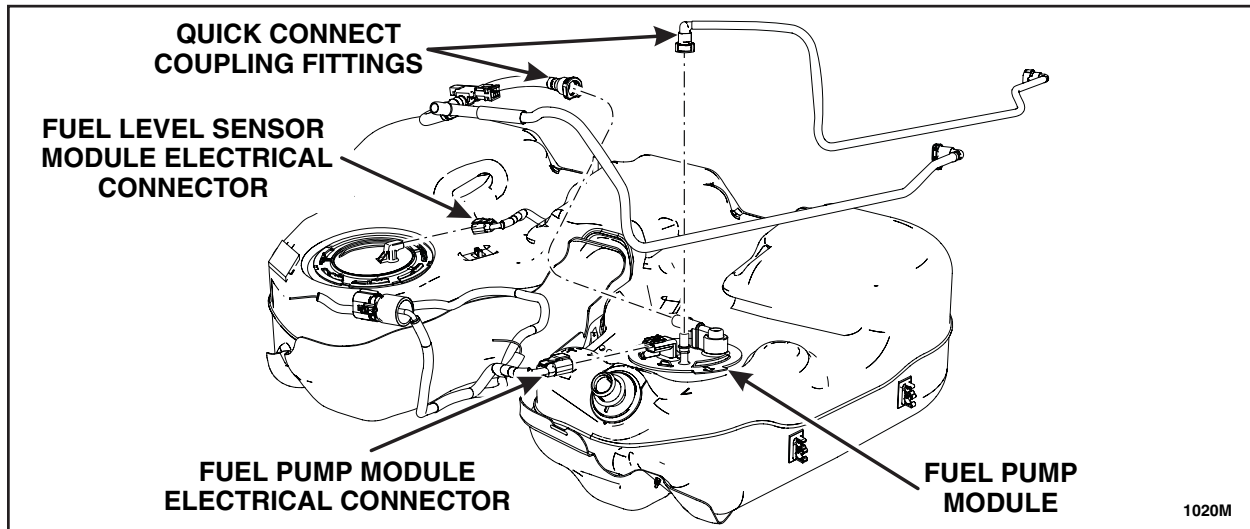

FIGURE 4
18. Disconnect the 2 quick connect coupling fittings from the fuel pump module. See Figure 4. For additional information, refer to WSM Section 310-00.
19. Disconnect the electrical connectors from the fuel pump module and the fuel level sensor module. See Figure 4.
40. Connect the electrical connector to the fuel pump and the fuel level sensor modules. See Figure 4.
41. Connect the 2 quick connect coupling fittings to the fuel pump module. See Figure 4. For additional information, refer to WSM Section 310-00.